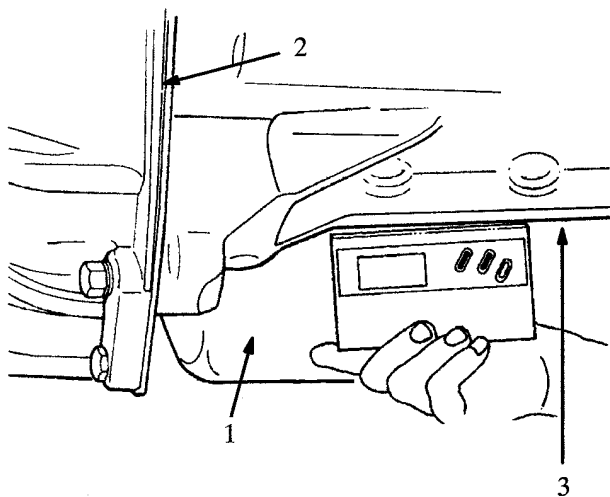

Figure 38 Record Angle of Engine and Main Transmission
5. Check and record the angle of the engine and main transmission. This reading can be taken at the rear of the transmission at the yoke or flange (Figure 38). It may also be taken at the engine oil pan rail with ZTSE-4329 Digital Protractor.